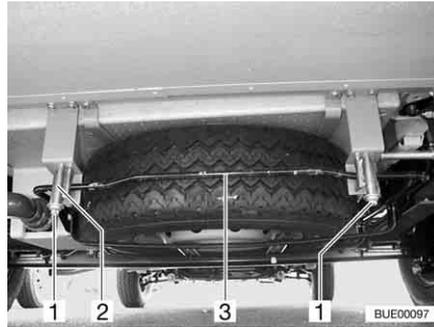

Fig. 249 Spare wheel support (basket)
- Loosen the nuts (Fig. 249,1) on the right and left rear hooks (Fig. 249,2) of the spare wheel support.
- Pull the bar (Fig. 249,3) slightly upwards. At the same time, pull down the hooks and unhook the bar.